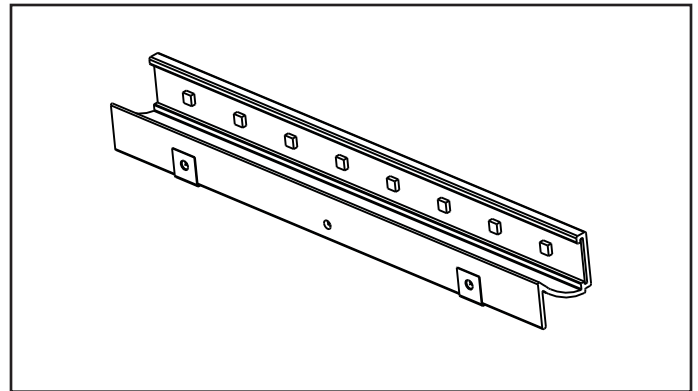

Figure 3.6 Light Bar
- Install new light bar (shown in Fig. 3.6).